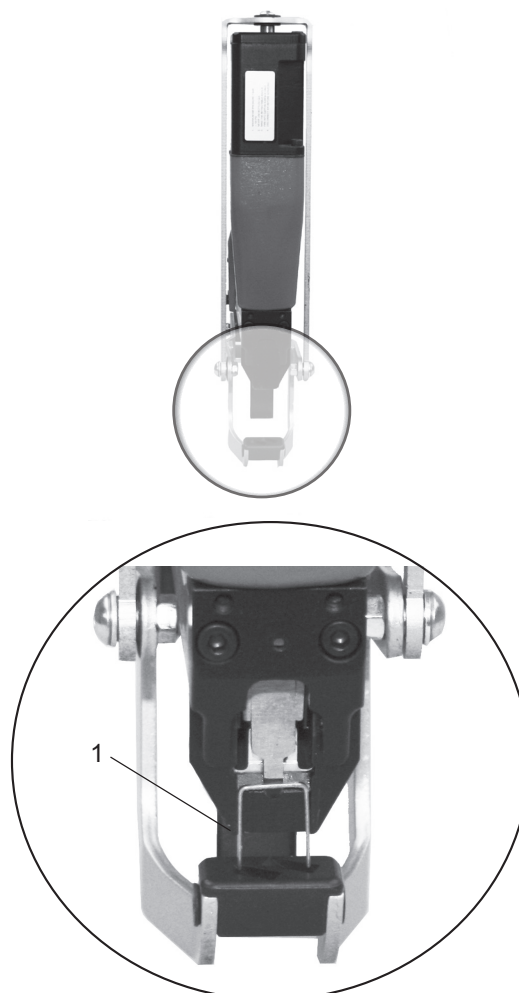

Fig. 10
- Insert a loose staple into the nozzle (Fig.10/1).